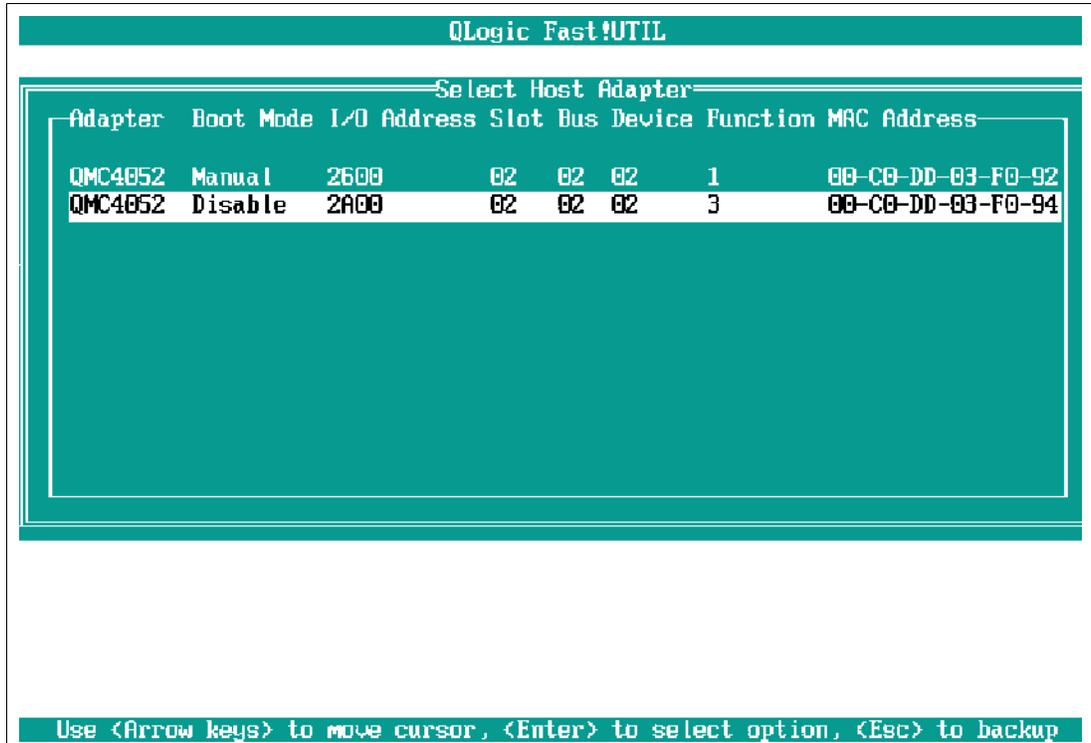

Figure 2-30 QLogic Fast!UTIL window
- i. Select the HBA host adapter port 1 as shown in Figure 2-30.